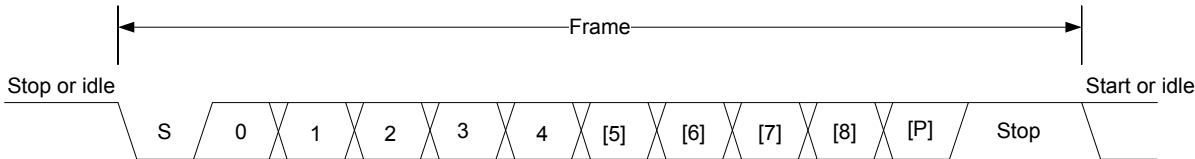

Figure 22.2. Frame Format
The frame format used in asynchronous mode consists of a set of data bits in addition to bits for synchronization and optionally a parity bit for error checking. A frame starts with one start-bit (S), where the line is driven low for one bit-period. This signals the start of a frame, and is used for synchronization. Following the start bit are 7 to 9 data bits and an optional parity bit. Finally, a number of stop-bits, where the line is driven high that indicates the end of the frame. An example frame is shown in Figure 22.2 Frame Format on page 665.